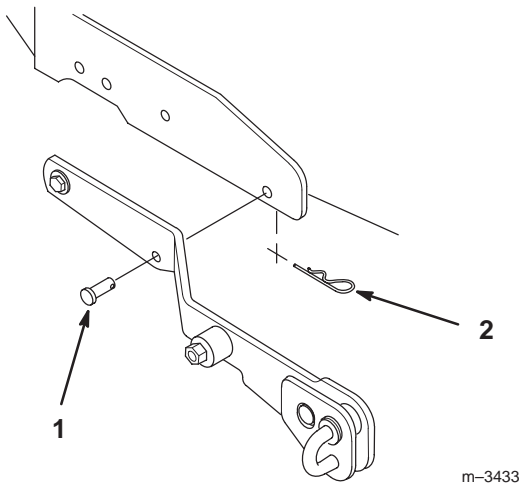

Figure 6
3. If you have previously had a snowthrower, blade, or tiller attached to the attachment lift, remove the two clevis pins on each side of the attachment lift (Fig. 6).